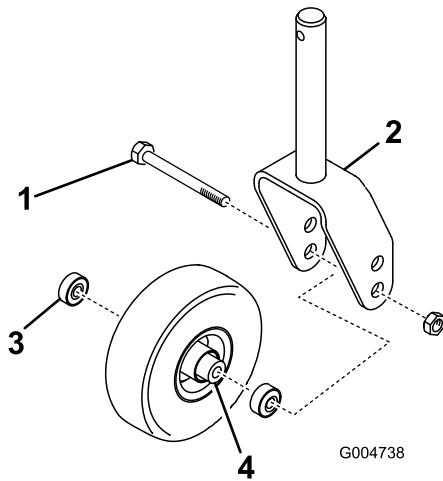
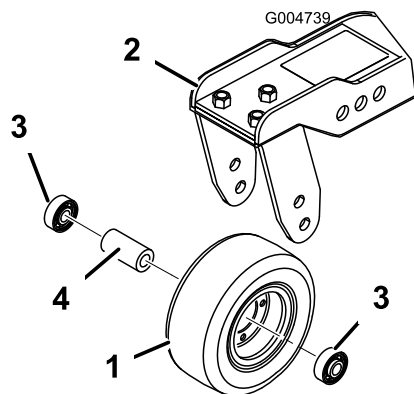

Figure 90
Figure 91
1. Remove the locknut from the bolt holding the caster-wheel assembly between the caster fork (Figure 90) or the caster-pivot arm (Figure 91).
2. Remove the bearing from the wheel hub and allow the bearing spacer to fall out (Figure 90 and Figure 91).